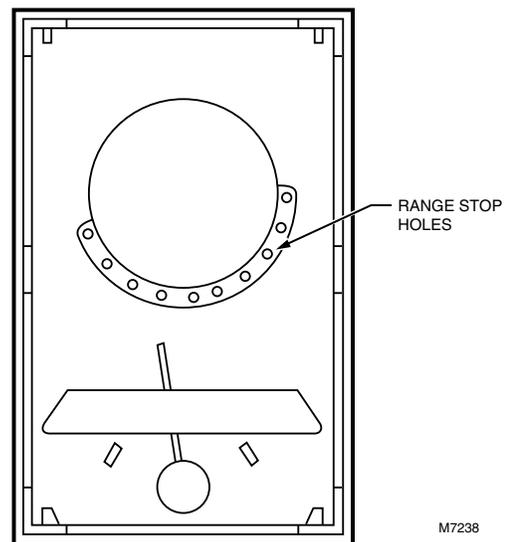

Fig. 5. Range stop installation.
- 2** Install the plastic dowels (included) into the minimum and/or maximum range stop holes on the inside back of the cover. See Fig. 5.